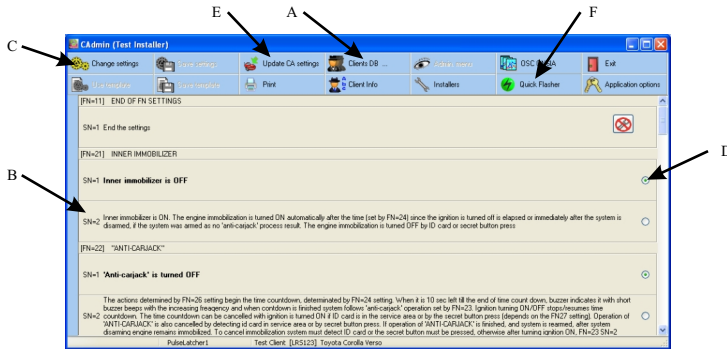
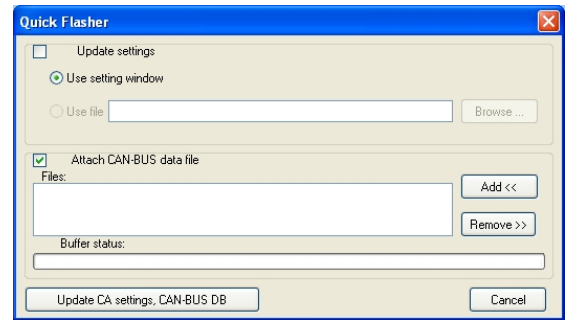

Fig. 9. 'CAdmin'. Window of settings.
Fig. 10. 'CAdmin'. Quick Flasher.
- click on the "Clients DB" icon (see Fig. 9-A);
- make a double click on this then a newly created client record and table with the alarm system default settings will appear (see Fig. 9-B);
- to make a settings change click on the "Change settings" icon (see Fig. 9-C) and from the options displayed click on the options you want (by clicking on their selection circles). When they are filled in you have chosen that option (see Fig. 9-D);
- when all the changes are made click on the "Change settings" icon once again to disable changing opportunity and click on the "Update CA Settings" icon (see Fig. 9-E) to start the Car Alarm settings update procedure;
- to update the alarm system with the new cars data click on the "Quick Flasher" icon (see Fig. 9-F), select the specific car CAN-BUS data file by clicking on the "Add" button (see Fig. 10) and write this file to an alarm system by clicking on the "Update CA settings, CAN-BUS DB" button;